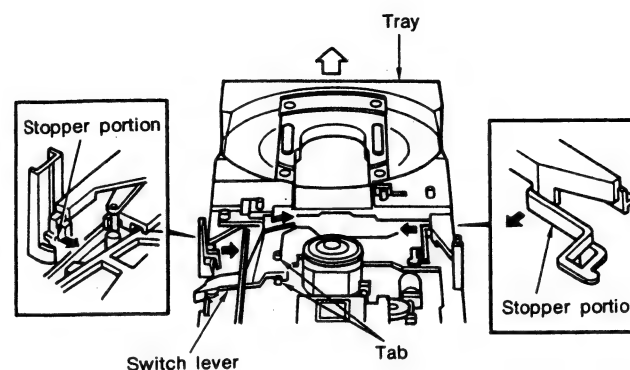

Fig. 1
1. Parts replacement of the tray mechanism (Figs. 1 and 2)
Open the tray and use a flat-bladed screwdriver to press the stopper portions of Fig. 1 (one each in the left and right locations) in the direction of the black arrow, then remove in the direction of the white arrow.
(2) Mounting of the tray (Figs. 1, 2, and 3)
(8) Replacement of the switch lever (Fig. 1)